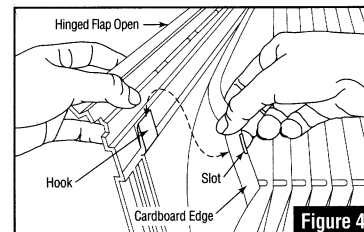

Figure 4
Step 8: Place one cardboard edge of new media over the hooks on the inner housing and through the slots in the cardboard (see Figure 4).